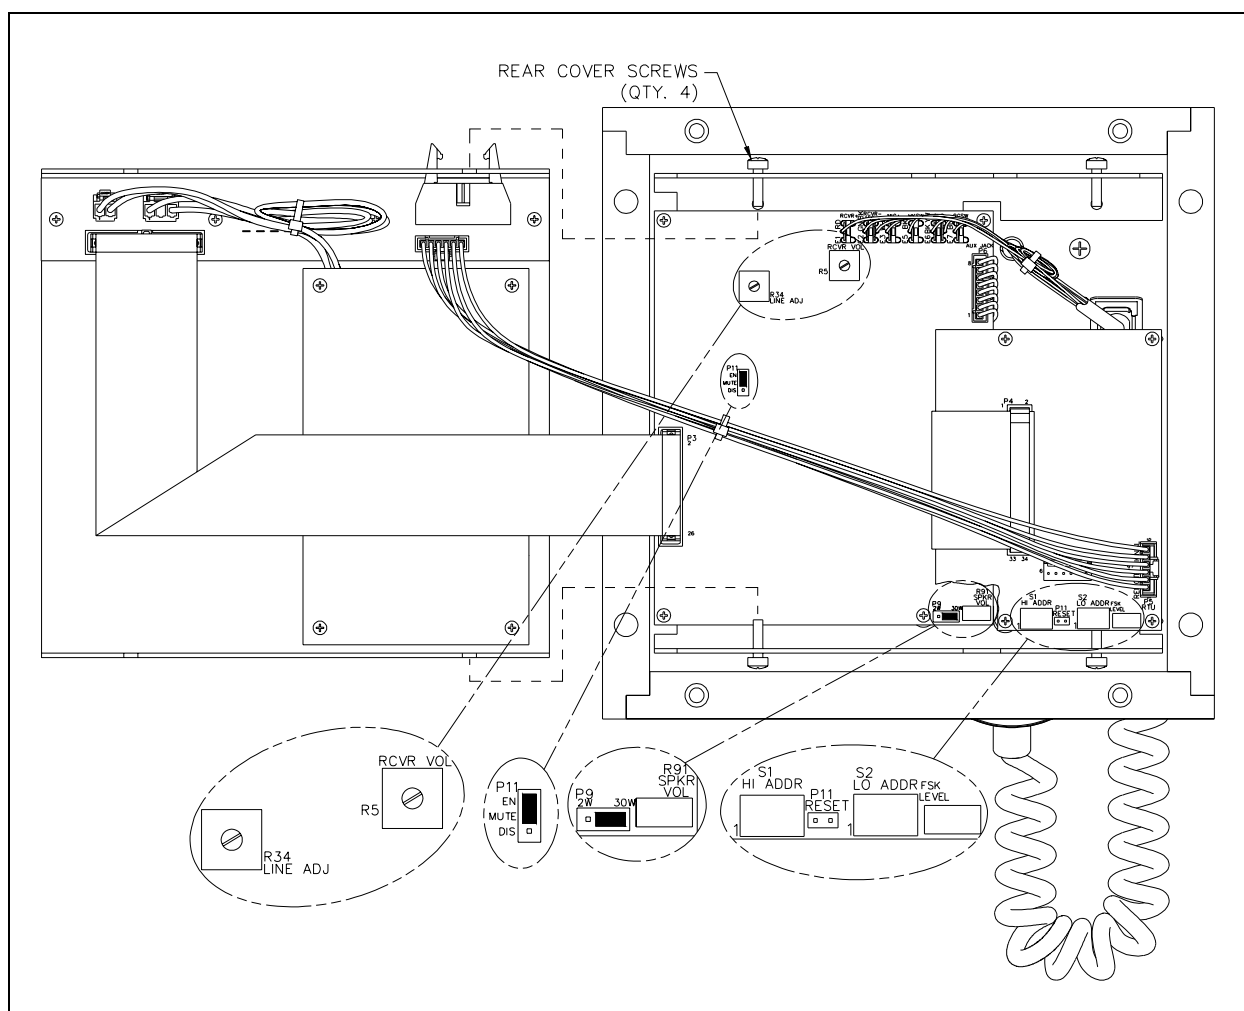

Figure 14. SmartSeries PCBA
1. Place the amplifier on a flat surface and loosen, but do not remove, the two sets of rear cover screws located on the top and bottom L-shaped slots. See Figure 14.
Refer to Figure 14 for locations. It is recommended to use a No. 10440-002 Maintenance Cable (sold separately) to perform the following adjustments.